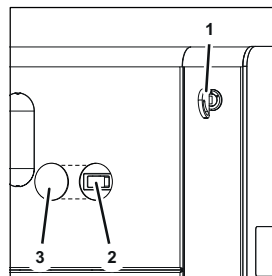

Fig. 86
17. Switch the On/Off switch (Fig. 86/2) to position "I" and attach the cover cap (Fig. 86/3).
18. Turn the key switch (Fig. 86/1) to position "I".